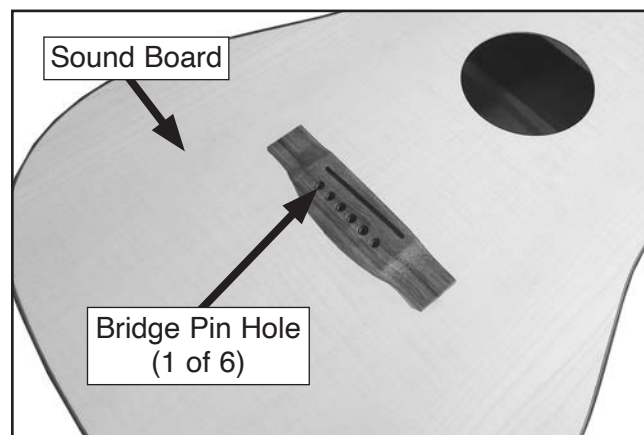

Figure 22. Bridge pin locations.
1. Carefully drill (6) holes in bridge using $\frac{5}{32}$ " Forstner bit at marked locations (see **Figure 22**).